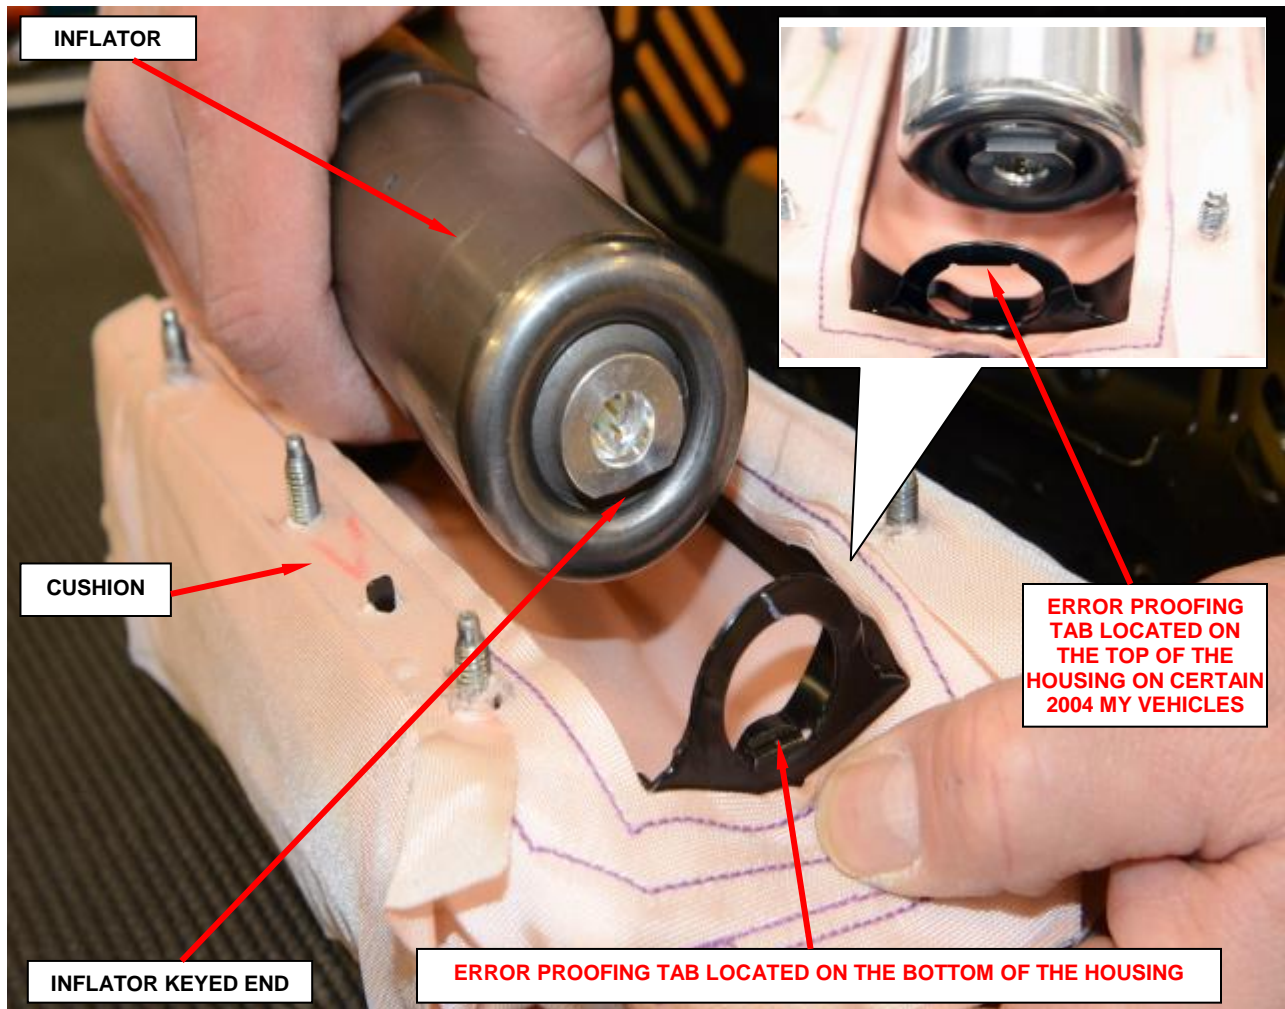

Figure 24 – Inflator to Cushion
- k. Install the new inflator to the cushion noting keyed end alignment (Figure 24).
NOTE: Ensure proper inflator fit. Note error proofing tab when reassembling to cushion (Figure 24).
NOTE: Certain 2004 model year vehicles have the error proofing tab on the top of the housing as shown (Figure 24).